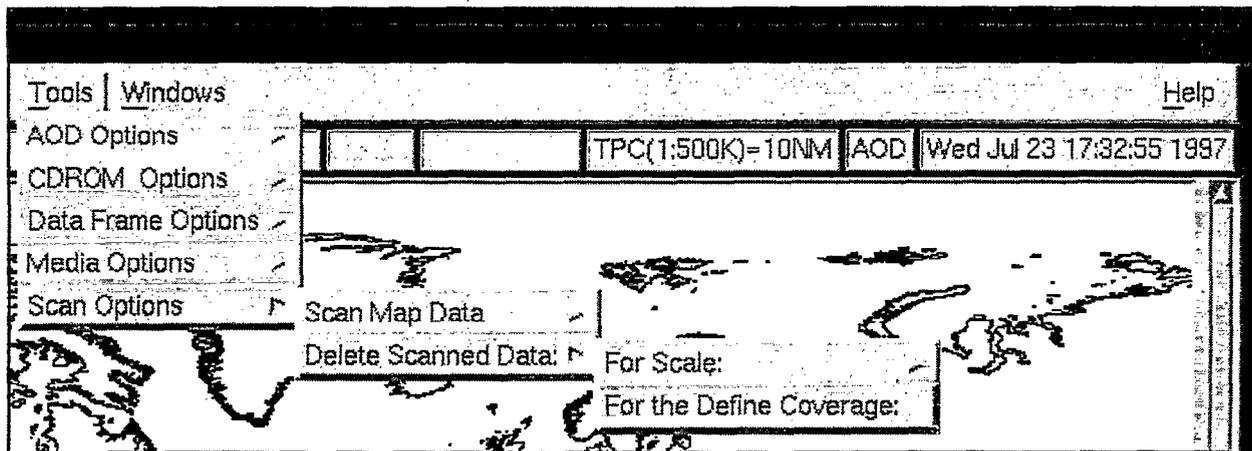

Fig. 67 — Delete a defined coverage of scanned data (at one or more scales)
- (2) To delete a defined coverage of scanned data (at one or more scales), first use the MMC define coverage buttons (Sec. 3.2.3) to outline the area(s) to be deleted (individual segments or entire areas). Then click on *Tools, Scan Options, Delete Scanned Data*, and *For the Defined Coverage* (Fig. 67). MMC will display a verification message; click on *Continue* to proceed or *Abort* to cancel.
- (3) The third method of deleting scanned data is while the user is reviewing it. This method is not part of *Tools, Scan Options, Delete Scanned Data*, but it is an easy way to selectively delete scanned data on the hard disk prior to archiving it to CD or including it in a composition. In particular, this is probably the best way to delete “partial segments” around the edge of a scanned area in preparation for seamlessly merging the scanned data with surrounding CAC data. Partial segments are not completely filled with chart data (i.e., they are partially black), so if they are inadvertently used as part of a final composition, partial segments would introduce gaps into the image.